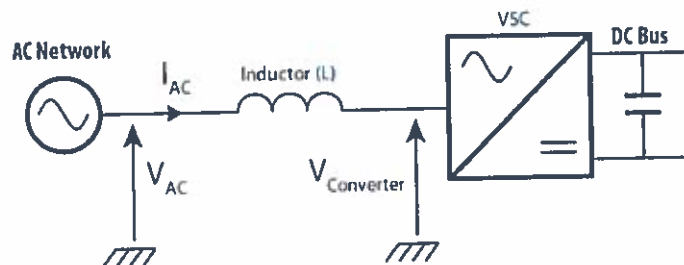

Figure 4.1: Voltage Source Converter
c) A 900 MW Voltage Source Converter (VSC) is shown in Figure 4.1. It is connected to a 400 kV (line-to-line) AC grid at 50 Hz and a DC network at ± 350 kV.